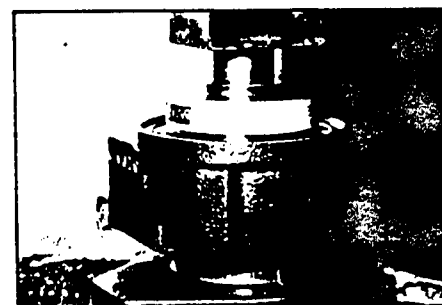

Figure 36
2. The Small Frame Series MG and MF Torqmotor inner housing bearing/bushing (13) can now be pressed into its counterbore in housing (18) flush to .03 inch (.76 mm) below the housing wear plate contact face. Use the opposite end of the bearing mandrel that was used to press in the outer bearing/bushing (19). Reference figure 1, page 7. SEE FIGURE 36.